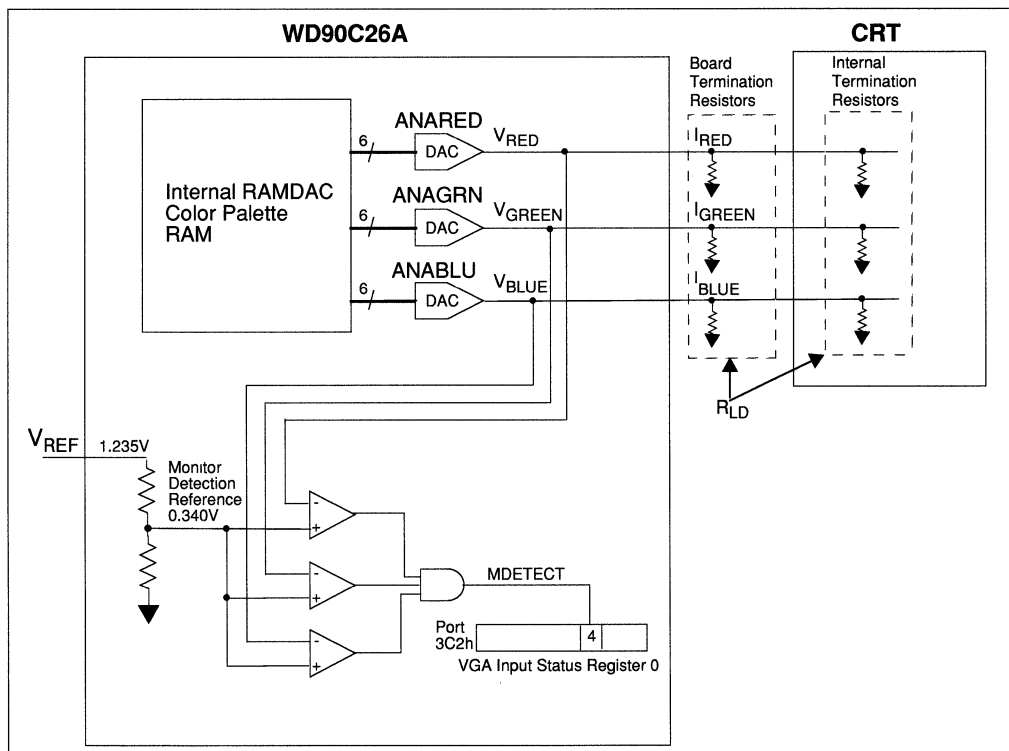

FIGURE 6-31 MONITOR DETECTION CIRCUIT FOR INTERNAL RAMDAC
- Internal RAMDAC Monitor Detection (Figure 6-31)
Figure 6-31 shows the monitor detection connections for the internal RAMDAC.
- An I/O Mapping Group Diagram (Figure 6-31)